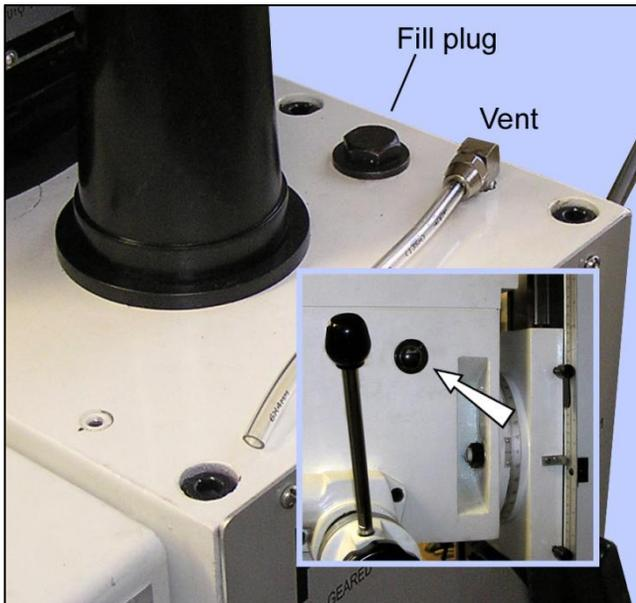

Figure 3-2 **Gearbox fill plug and sight glass (inset)**
6. Remove the fill plug, Figure 3-2, then add just a few ounces of oil.